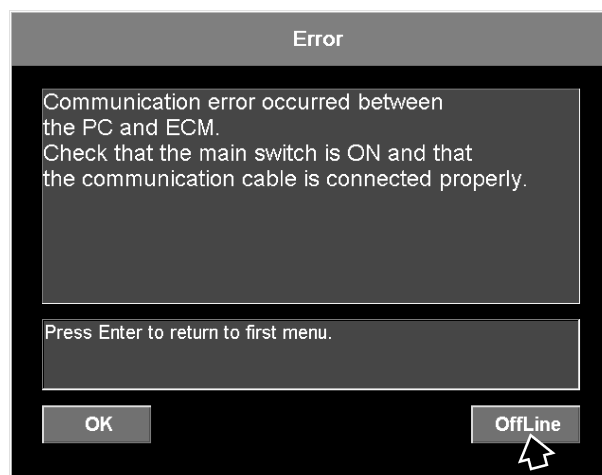

Fig. 35
2. When the “communication error” dialog appears, click the **OffLine** button. (Fig. 35)